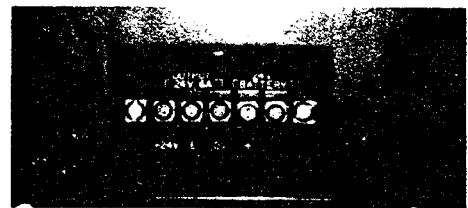

FIGURE 9 — EPSA TERMINALS
02.12 Remove the terminal strip cover from the OUTPUT/24V, 8A-24V/BATTERY terminals (Figure 9).